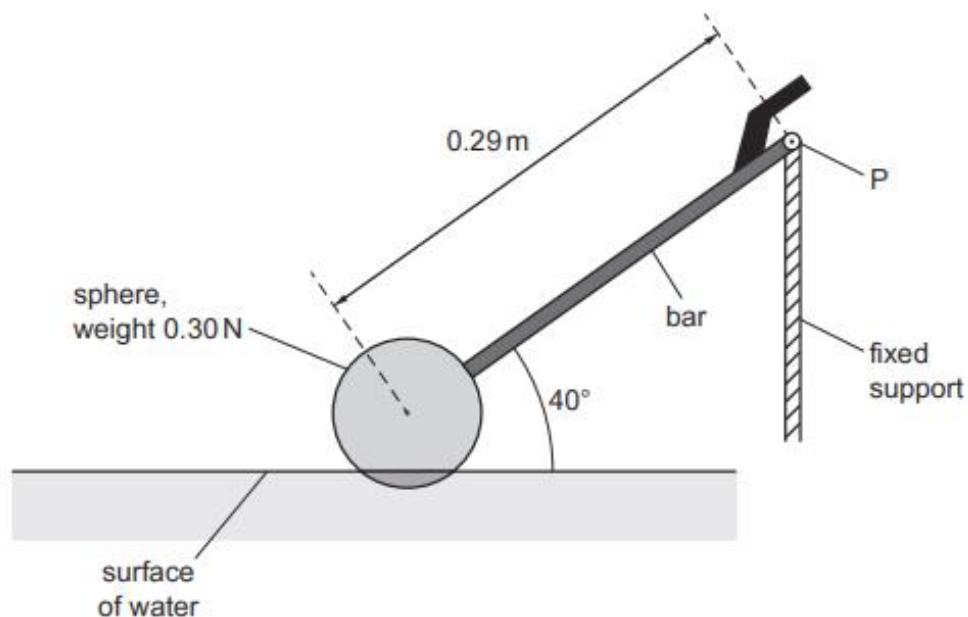

Fig. 3.1 (not to scale)
(b) A hollow plastic sphere is attached at one end of a bar. The sphere is partially submerged in water and the bar is attached to a fixed vertical support by a pivot P, as shown in Fig. 3.1.
- (c) The system shown in Fig. 3.1 is part of a mechanism that controls the amount of water in a tank.